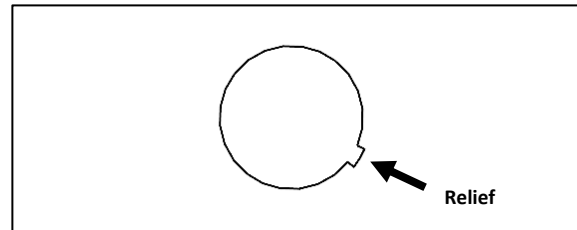

Figure 16: Cutout with Relief
20. ☐ Install the (2) PARKING SENSOR RETAINERS [301923] by orienting the tab to fit in the relief cutout on the bumper. Ensure the tabs on the retainer are fully extended. **See Figure 16.**